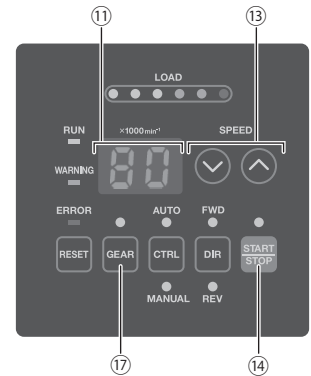

Fig. 28
- (4) Motor Start / Stop (Motor Start / Stop by pushing the START / STOP Button (START / STOP) ⑭ of the Fig. 28.)
- (5) Setting Motor Speed (Set the Motor Speed Adjustment Button (SPEED ⬆, ⬇) ⑬ of the Fig. 28.)
(3) Setting Gear Ratio (Set the Gear Mode Select Button (GEAR) ⑰ of the Fig. 28.)
(5) Setting the Motor Speed
Setting parameter **(P2)** to ON allows the motor speed to be adjusted in Auto Mode using the Motor Speed Adjustment Button (SPEED ▲, ▼) ③ of the Fig. 28.